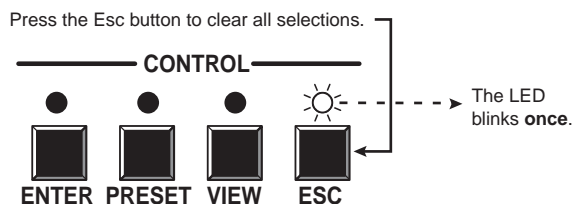

Figure 3-16 — Clear all selections
1. Press and release the Esc button (figure 3-16).